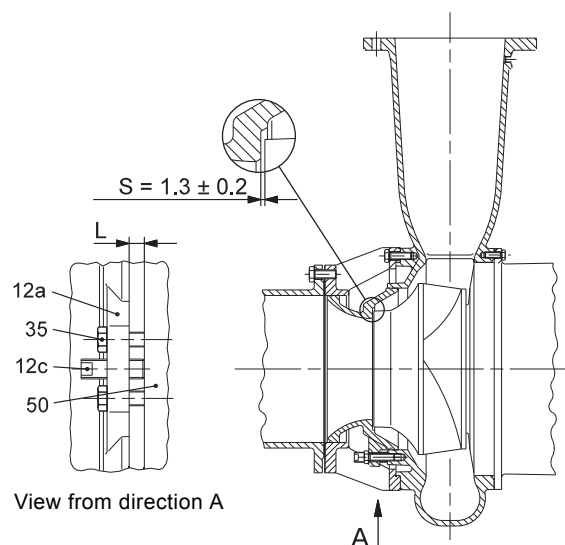

Fig. 10 Impeller clearance, installation types D and H, method 1
These pump types have threaded holes for the fastening screws (35) of the suction cover (12a) in the pump housing (50) as shown in fig. 10. Set the impeller (49) clearance as follows:
1. Slacken the three set screws (12c) and close the impeller clearance "S" by tightening the six fastening screws (35) diagonally to move the suction cover evenly.